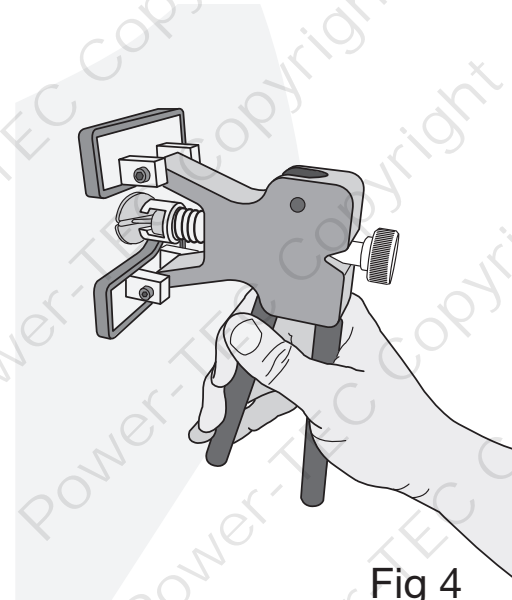

Fig 4
7. With a steady motion, press the two handles of the easy puller together (see Fig 4).